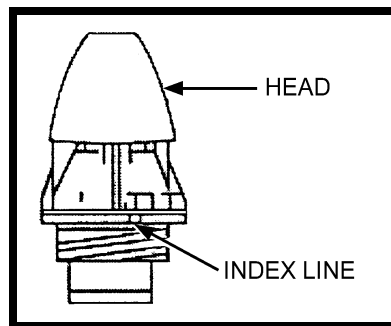

Figure 7-21. Setting the M734 multioption fuze.
- (3) See the firing table for the correct time setting.
- (4) Remove the fuze safety pin or wire before firing.
d. M734 Multioption Fuze (Figure 7-21). Fuze can be set by hand by rotating the fuze head (clockwise) until the correct marking (PRX, NSB, IMP, or DLY) is over the index line.